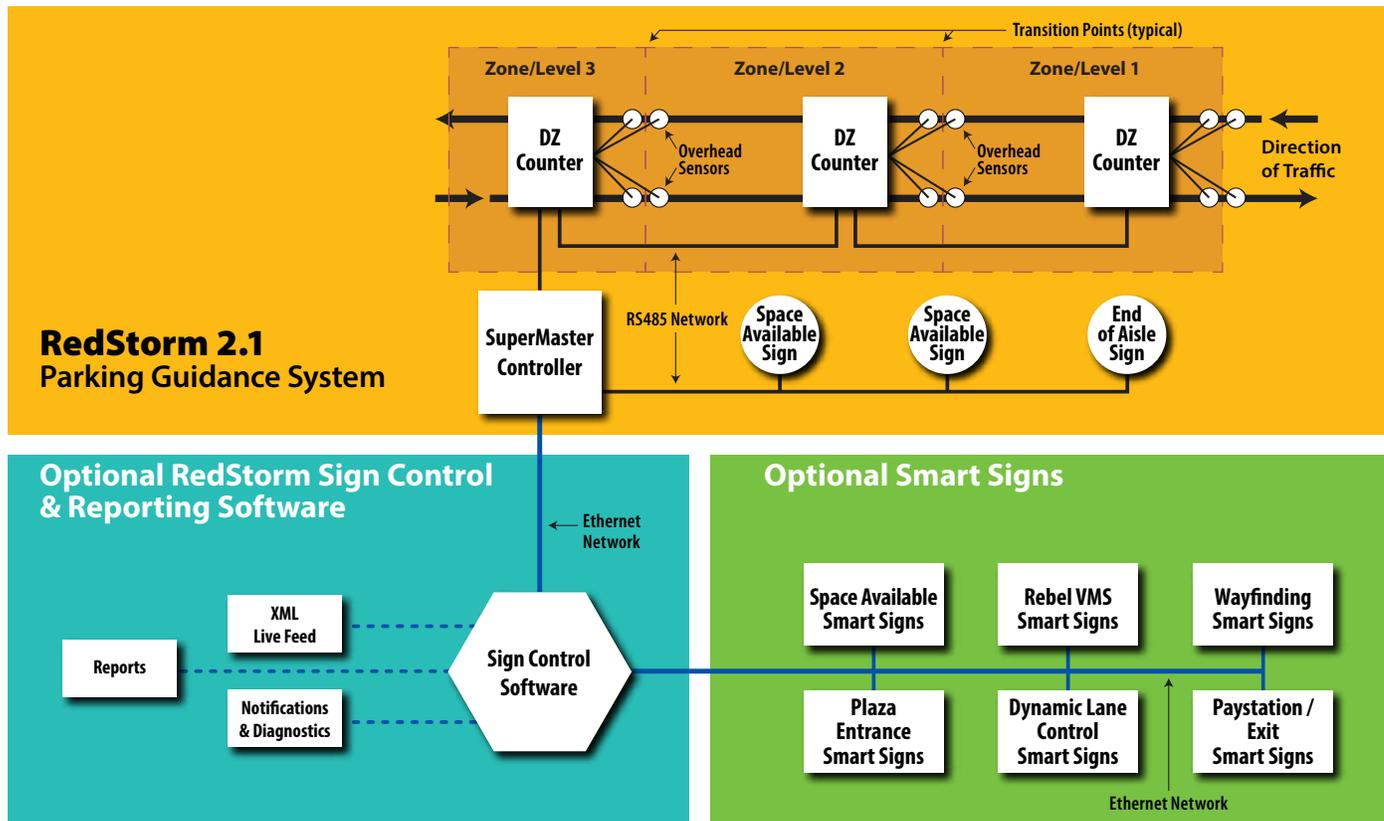

Figure 2-3. RedStorm Component Topology
RedStorm 2.1 SuperMaster is equipped with a RJ45 Ethernet port for connecting to the software. Each RedStorm 2.1 System will require a static IP lease on the network. Facility Network MUST be DHCP enabled! (see Figure 2-3)
- Each RS485 network bus can support up to sixty-four (64) devices. DZ Counters and sign displays are considered individual devices.
- Typical System Topology (refer to Figure 2-3)